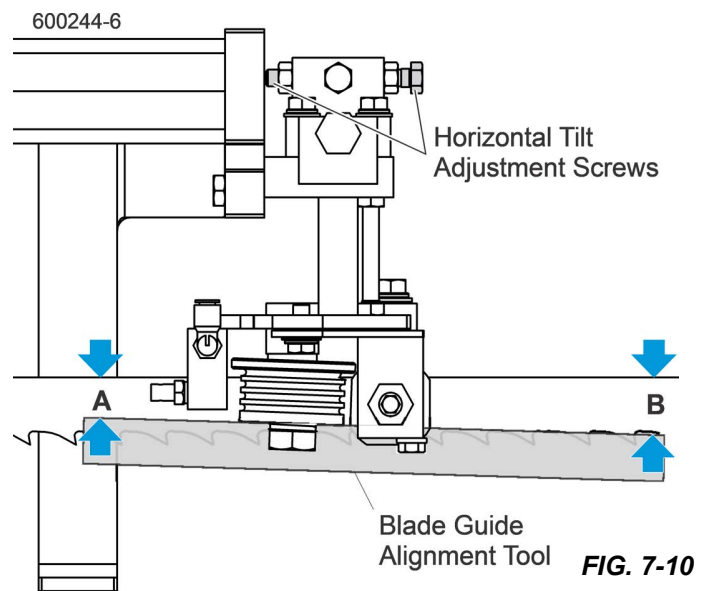

FIG. 7-10
1. Measure the distance between the flange on the **outer blade guide roller** to the back edge of the blade. See FIG. 7-10.